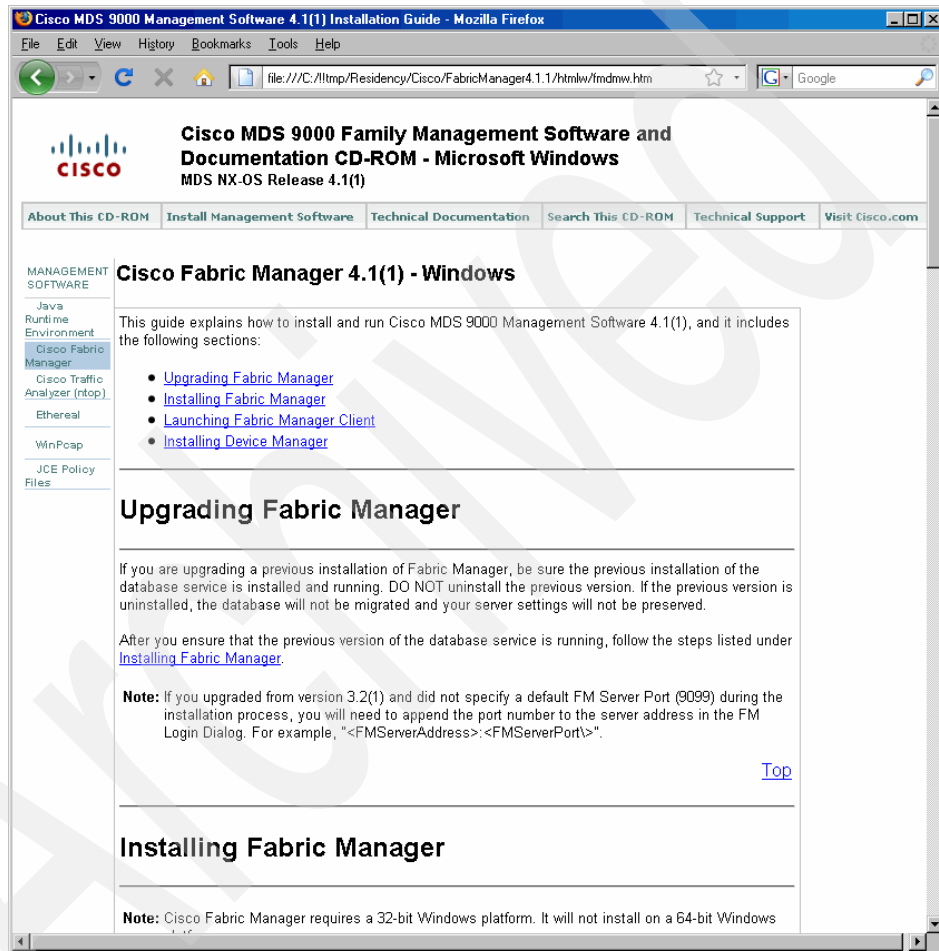

Figure 4-7 Fabric Manager Software options
2. Select **Installing Fabric Manager**, as this is the first install, as shown in Figure 4-7.